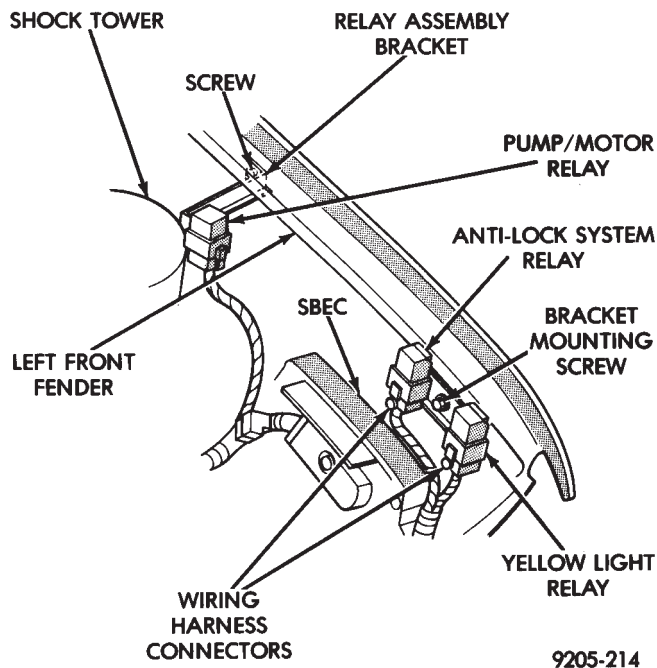

Fig. 2 Pump/Motor and Anti-Lock System Relays
SYSTEM RELAY, ANTI-LOCK WARNING LAMP RELAY AND PUMP/MOTOR RELAYS (FIG. 2)
(1) Disconnect the wiring harness electrical connector from the relay housing (Fig. 2).
(2) Remove the attaching screw holding the relay housing to the fender shield (Fig. 2).
(3) Install the new relay assembly. By inserting the anti-rotation tab on the assembly into its hole in the inner fender. Then secure the relay assembly to the fender shield with its attaching screw.
(4) Install the wiring harness onto the relay assembly. Firmly pushing the connector onto the relay until the locking tabs are fully engaged with the relay.